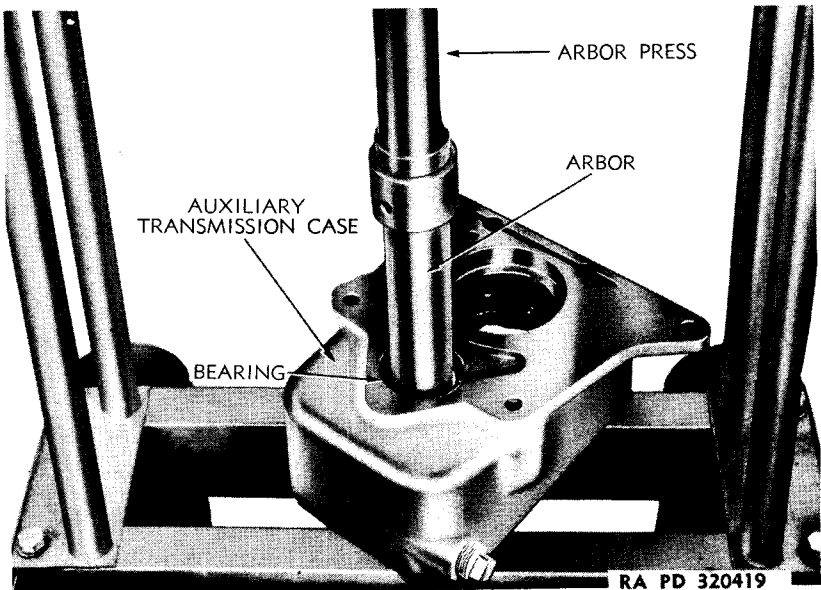

Figure 10 — Pressing Bearing From Auxiliary Transmission Case
a. **Disassemble Case Assembly.** Remove cotter pin and nut from shifter arm and shaft. Remove shifter lever and oil seal. Remove shifter arm and shaft assembly from inside of case. Press bearing from case (fig. 10).